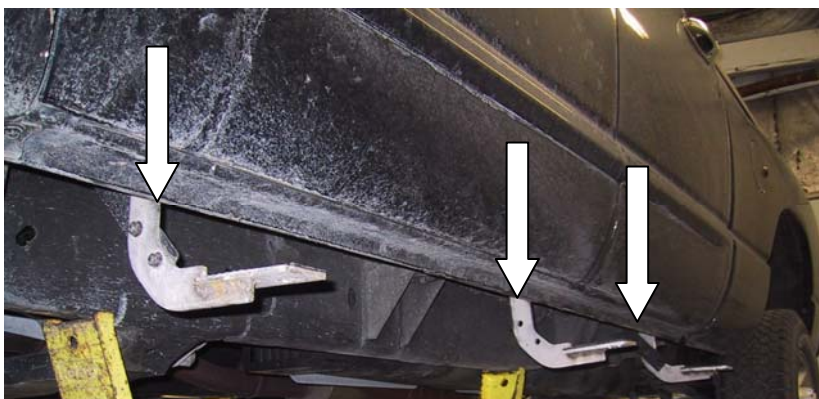

FIG 1-4
- (c) Mount all three main brackets to the interior rocker panel using one 3/8" flange nut (789) and flat washer(772) in each location. Hand tighten only leaving brackets loose for adjustment. (fig 1-3) **Locations for brackets are approximately 9.5", 46.00", and 71.45" from front of the step tube.** (fig 1-4)